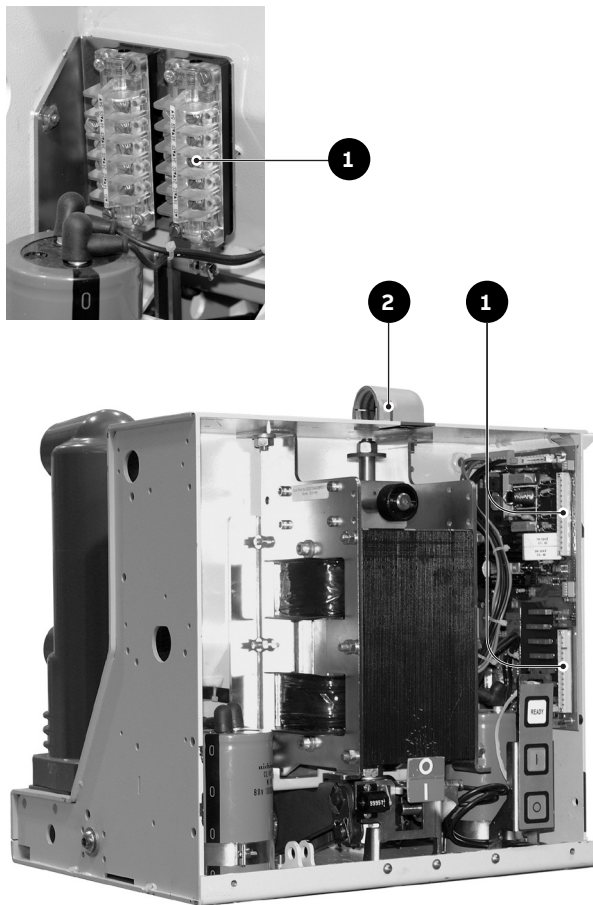

Fig. 14
Connection of the circuit breaker auxiliary circuits must be made by means of the terminal boxes (1) (fig. 14) mounted inside the circuit breaker and the wires must pass through the connector (2). Outside the connector, the cables must pass through a suitable metal protective cover (pipe, wiring duct, etc.) which must be earthed. To avoid the cabling wires outside the circuit breaker (provided by the customer) accidentally coming into contact with moving parts and therefore damaging the insulation, it is advisable to position and fix the wires as shown in the figure.